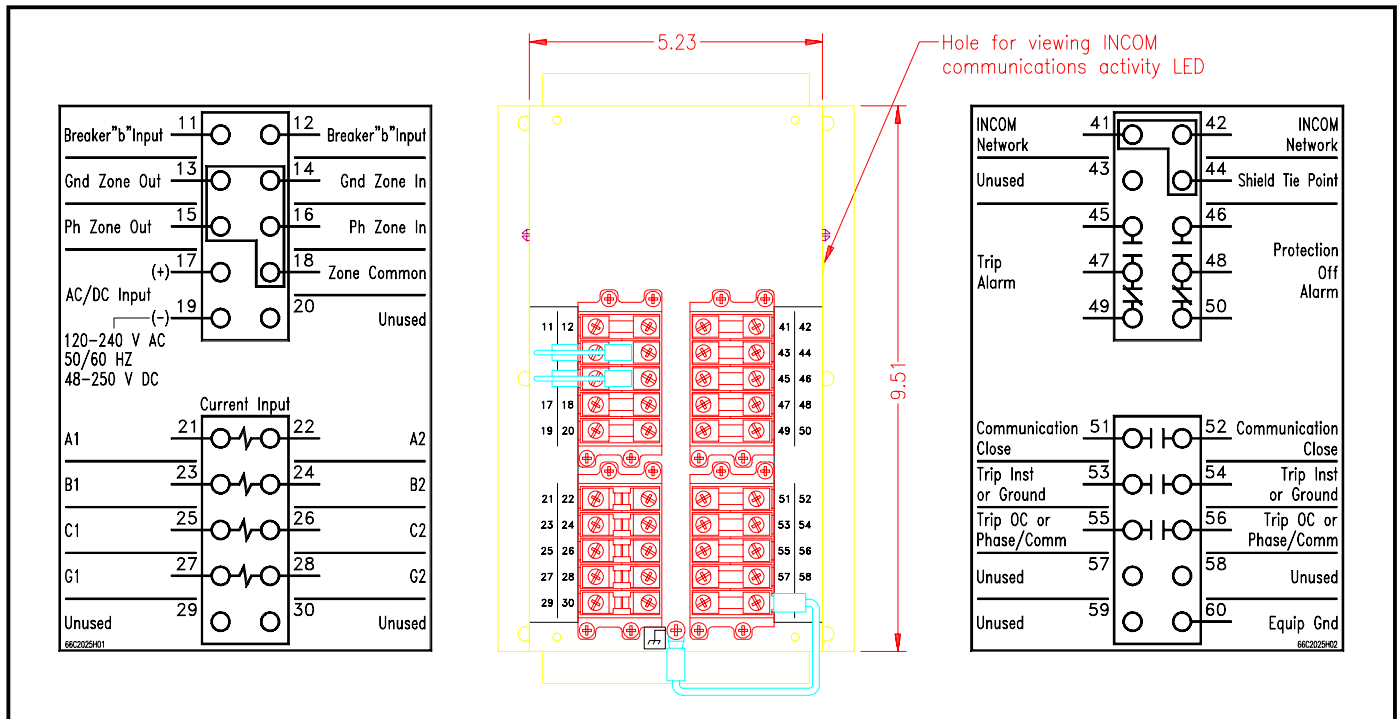

FIGURE 4. REAR VIEW OF DT3000 DRAWOUT OUTER CASE
4. The INCOM communications LED can be seen through a hole in the outer chassis. Refer to Figure 4.